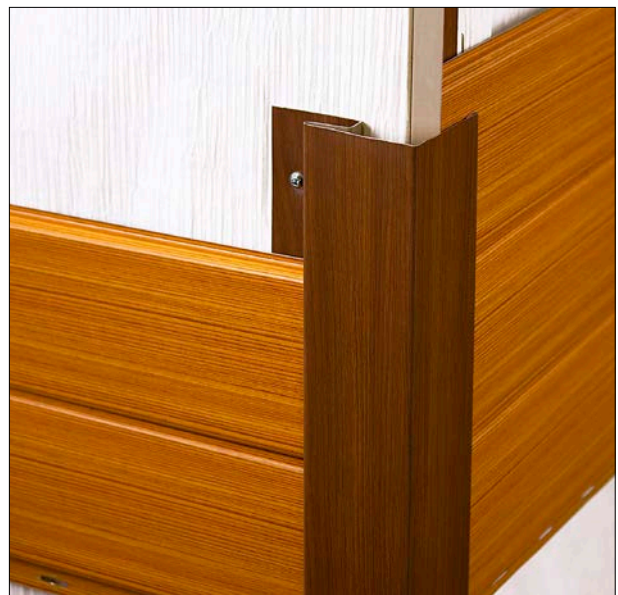

Fig.67
Step 4: Set the standard panels in place and fasten (Fig.67).